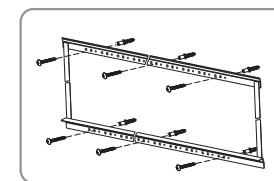

Figure 13
- Concrete wall installation: Follow the screen installation step 3 and drill six proper holes through the concrete wall with electrical drill, and then nail the screw anchors into the done holes on the wall. Fix the $\phi 5 \times 40 \text{ mm}$ tapping screws to the holes on the wall through the holes in the top and bottom installation bars, three sets of screws on each bar. (Figure 13)